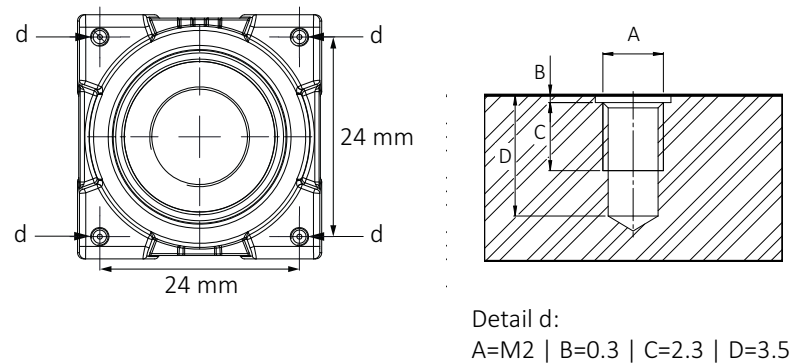

Figure 62: Camera front with mounting threads (d)
1. Mount the camera to the base using suitable M2 screws at 0.23 Nm maximum torque for a thread engagement (C) of 2.3 mm between screws and mounting threads, see Figure 62. For technical drawings, see Standard Alvium: Dimensions and mass on page 219.